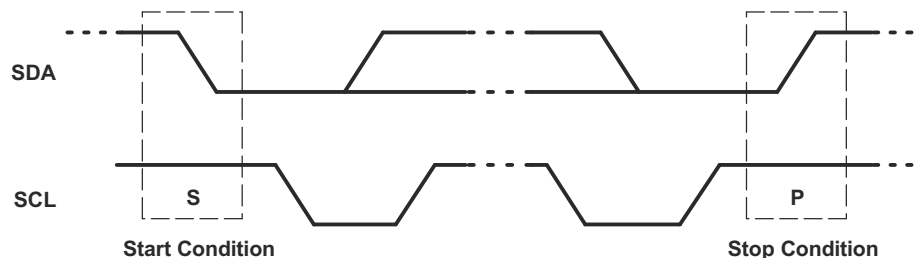

图 8-2. Definition of Start and Stop Conditions
Both data and clock lines remain high when the bus is not busy. A high-to-low transition of the data line while the clock is high is defined as the start condition (S). A low-to-high transition of the data line while the clock is high is defined as the stop condition (P) (see 图 8-2).